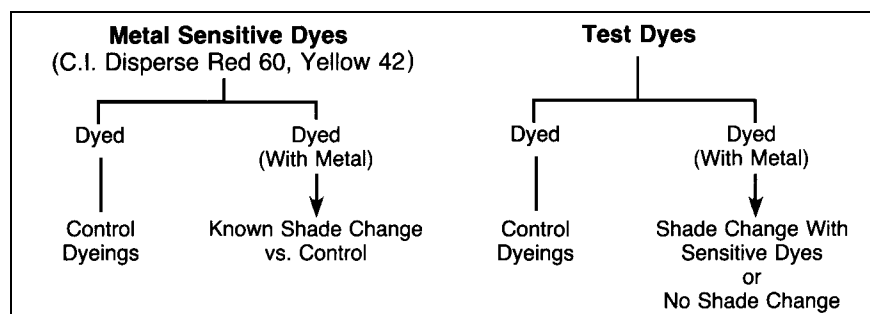

Fig. 2
2.2 Metal sensitivity of disperse dyes is determined by comparing control dyes and test dyes by the protocol shown in Fig. 2.